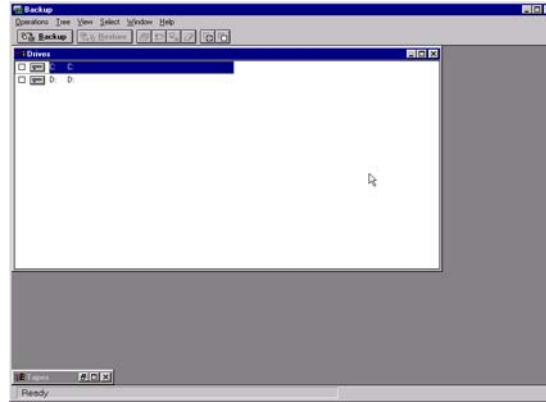

Figure B-29: Drives Window
5. In the drives window, double-click the gray drive icon labeled C: (Figure B-29).